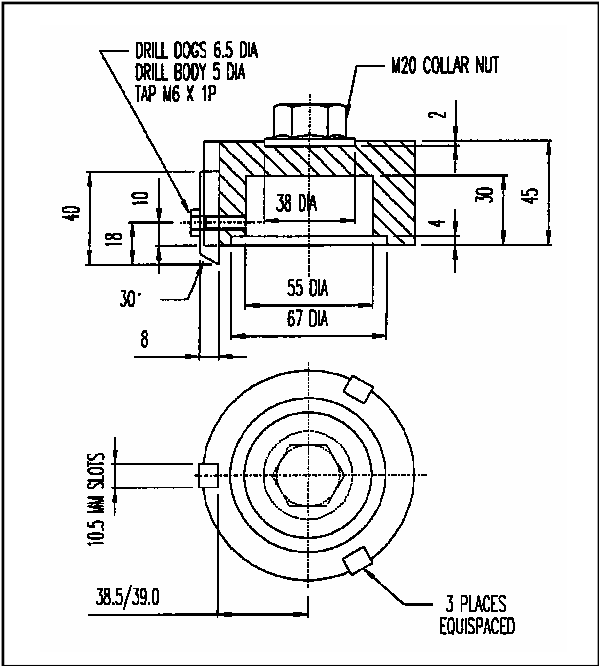

Figure B20 - Hub Nut Spanner 9104-M-122/12
- 6.2. Unscrew the hub locknut (item 15) using the hub nut spanner (See figure B20).